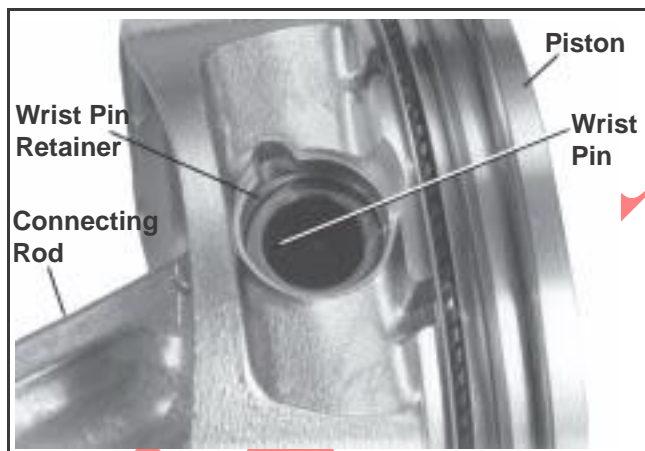

Figure 9-51. Removing Piston From Connecting Rod.
1. Remove the wrist pin retainer and wrist pin. Separate the piston from the connecting rod. See Figure 9-51.